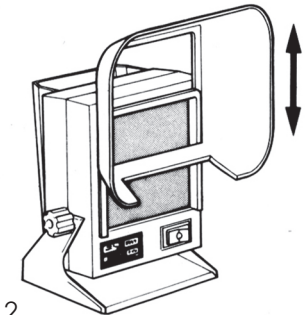

Fig. 2.
2. Slide the Hood on as shown in Fig. 2.